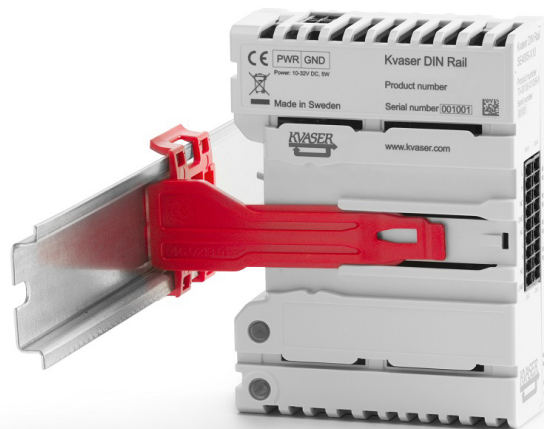
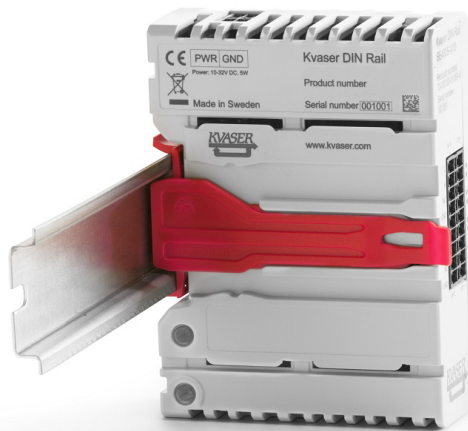

Figure 3: Inserting module into clip mounted on a DIN Rail.
Figure 4: Module securely mounted on a DIN Rail.
2. Mount the Kvaser DIN Rail SE410S-X10 module by inserting the module so that the mounting clip fits into the guiding rail of the module. Apply slight pressure of the module against the DIN Rail so that the module locks into place, see Figure 3 on Page 10 and Figure 4 on Page 11.